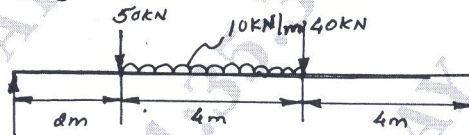

Fig.Q5(b)
- b. A beam shown in Fig.Q5(b), draw shear force and bending moments and also locate and calculate the maximum bending moment. (14 Marks)